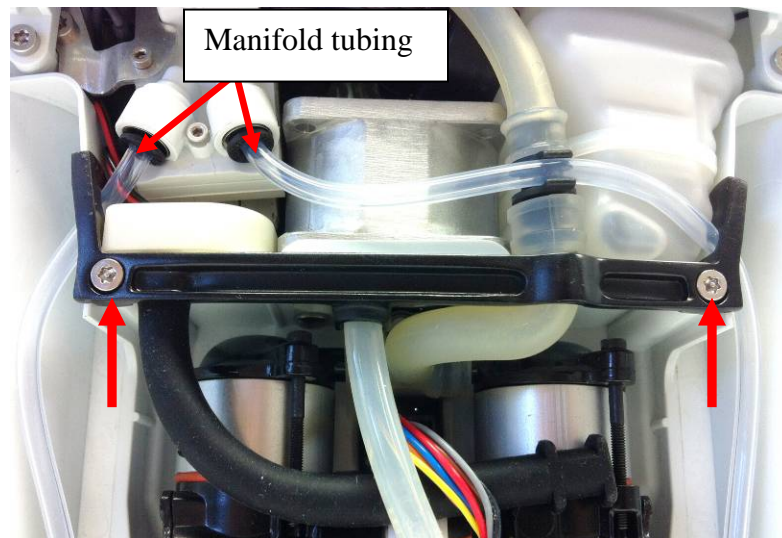

Figure 3: Tube bracket screws
1. With the device still on its back side, unscrew the two tube bracket screws (Figure 3) and remove the tube bracket and set aside.